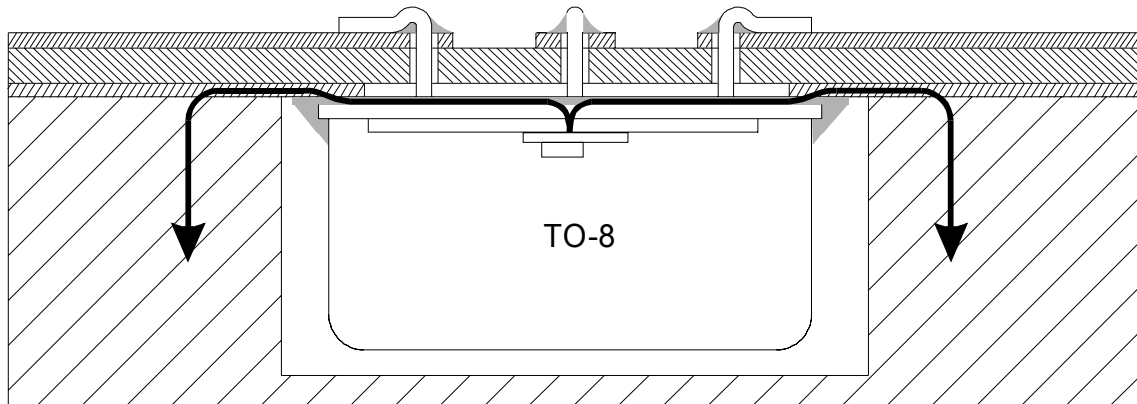

Figure 2: Heat Dissipation Path
- c) The area of the PWB GROUND PLANE side that surrounds the TO-8 package should rest on a flat metal surface, and a counterbored cavity should be provided with a diameter about 0.080" wider than the diameter of the TO-8 body (see Fig.1). This cavity clears the TO-8 case and tab, but still provides a relatively large mass of metal onto which the TO-8 package can dissipate heat through the annular area of GROUND PLANE copper that bridges the soldered area of the TO-8 case and the metal housing. The heat dissipation path is shown in Fig.2.